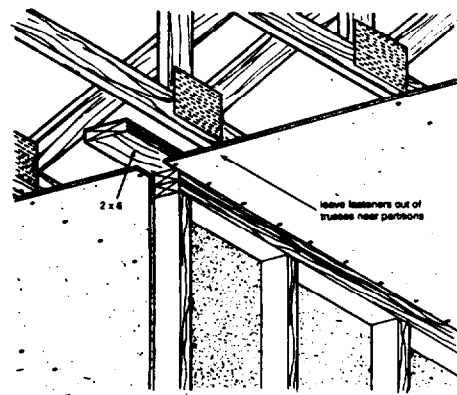

Figure 5. For trusses parallel to partitions, install 2 x 6 nailers for fastening ceiling materials. Leave fasteners out of trusses close to partitions.
- Construction practices in some parts of the country suggest installing "dead-wood" blocking to the top of the wall plates between the trusses. These blocks provide a surface to attach the edges of the drywall. Attachment of the drywall can then be held back 12 to 16 inches on the trusses, Figures 5 and 6.